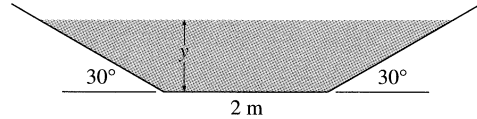

Fig. P10.17
**10.29** Suppose that the trapezoidal channel of Fig. P10.17 contains sand and silt which we wish not to erode. According to an empirical correlation by A. Shields in 1936, the average wall shear stress  $\tau_{\text{crit}}$  required to erode sand particles of diameter  $d_p$  is approximated by
where  $\rho_s \approx 2400 \text{ kg/m}^3$  is the density of sand. If the slope of the channel in Fig. P10.17 is 1:900 and  $n \approx 0.014$ , determine the maximum water depth to keep from eroding particles of 1-mm diameter.